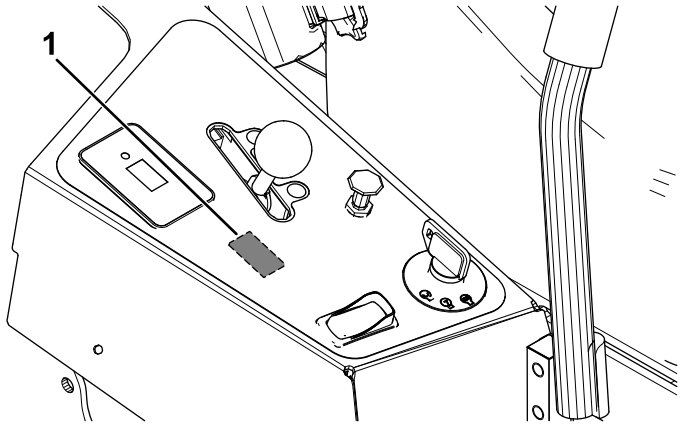

Figure 5
1. Cut out the opening in control panel decal for the headlight rocker switch (Figure 5).